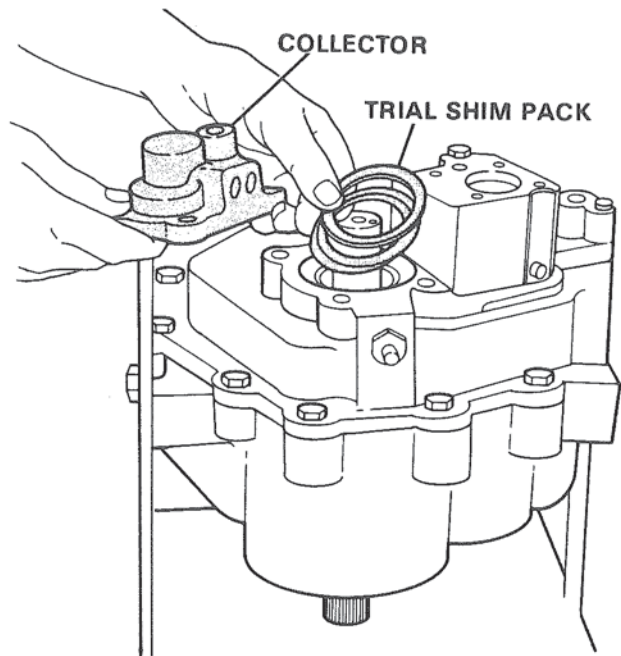
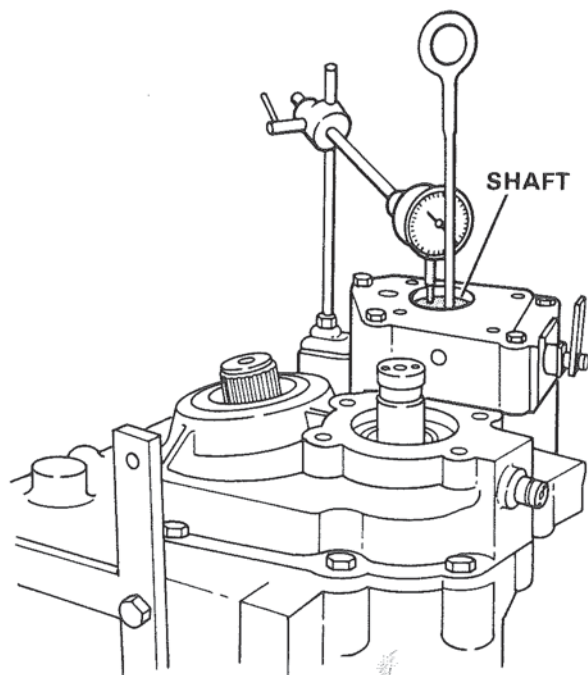

Figure 38. Installing Trial Shim Pack and Collector.
Figure 39. Dial Indicator Mounted for End Play Check-Reverse Clutch Shaft.
1. **Reverse Clutch Shaft End Play.** Install the trial shim pack behind the rear bearing cup of the reverse clutch shaft. Figure 38.
2. Install the valve body over the reverse clutch shaft and onto the rear cover. Secure the valve body with three (3) hex head cap screws (3/8-16 x 2-1/2), one (1) hex head cap screw (3/8-16 x 5), and one (1) hex head cap screw (3/8-16 x 4-1/4). Tighten cap screws to 27-30 ft. lbs. (3.72 - 4.14 kg/cm) torque.
3. Attach a lifting eye with a ten in. stem into the threaded hole of the clutch shaft. Figure 39. The hole is a (5/16-18 x 5/16) thread. Mount a dial indicator so the stem or finger of the indicator contacts the end of the clutch shaft outside the eye bolt hole. This is necessary to permit the shaft to rotate with the dial indicator in position. Mark a spot next to the indicator stem. Apply a 100-300 lbs. force, approximately, downward on the clutch shaft, and while maintaining this force turn the shaft two (2) full turns. Continue the pushing force and zero the dial indicator. Pull steadily with a 100-200 lbs. force (hoist) while turning the shaft through two (2) complete turns. Continue the force, and read the indicator stopped on the selected spot. The indicator now shows the actual bearing end play. Select shims to obtain the end play of 0.003-0.005 in., preferably near the low end of this range. Mark and set the final selected shim pack aside for final assembly later.